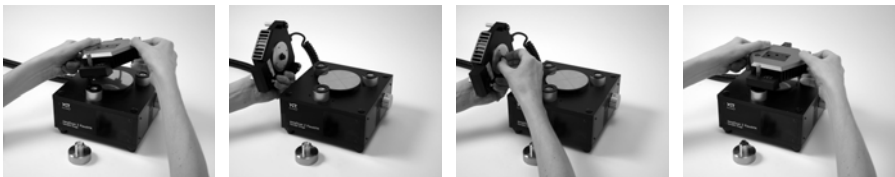

Figure 3-3: Removing the Cantilever Holder
- ❶ Make sure the sample is away far enough from the Scan head (see *Section 6.1: Finishing scanning* (page 70)).
- ❷ Lift up the Scan head with both hands (front side first, followed by each of the two back sides, as in *Figure 3-3: Removing the Cantilever Holder, left*).
- ❸ Turn the scan head to one side, firmly holding it in one hand (*Figure 3-3: Removing the Cantilever Holder, left center*).
- ❹ Use your other hand to remove the Cantilever Holder (*Figure 3-3: Removing the Cantilever Holder, right center*), and place it on top of the Cantilever Exchange Tool.
- ❺ Put the Scan head back onto the Sample Stage (*Figure 3-3: Removing the Cantilever Holder, right*).